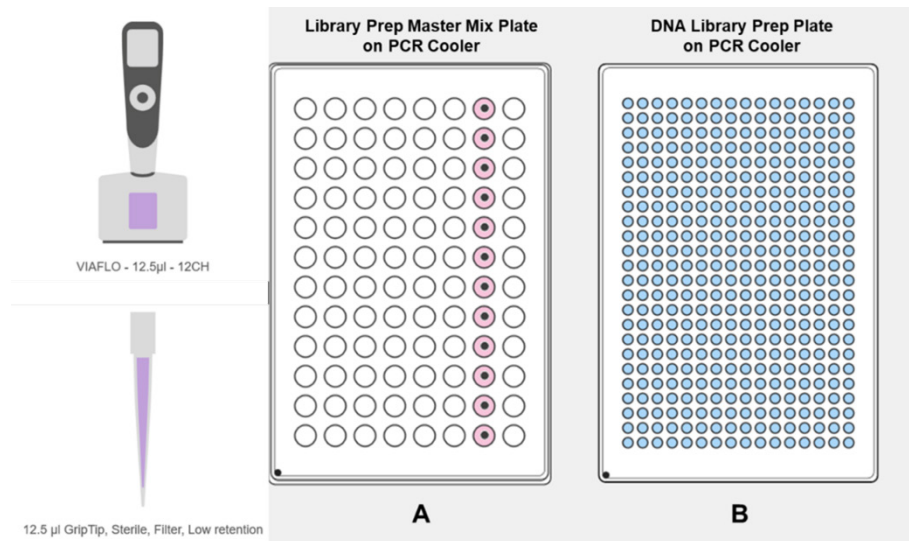

Figure 28: RO384_13D_Dpool.
1. Place the cold 96-well and 384-well PCR cooling blocks onto the ASSIST PLUS deck at Positions A and B, respectively (Figure 28).
- ① For greatest downstream flexibility, samples may be cleaned up individually, balanced and pooled for sequencing. If samples are cleaned individually, maintain a 0.75X volume ratio of Resolve Beads to total Amplification Reaction product (i.e., add 11.3 μ L of Resolve Beads per individual sample well), refer to section XXI. Post Library Amplification Cleanup (Optional, Individual)
2. Place the Library Prep Master Mix Plate on the 96-well PCR cooling block in Position A and place the DNA Library Prep plate on the 384-well PCR cooling block in Position B with position A1 of both plates in the bottom left corner, as indicated by the dot in Figure 28.